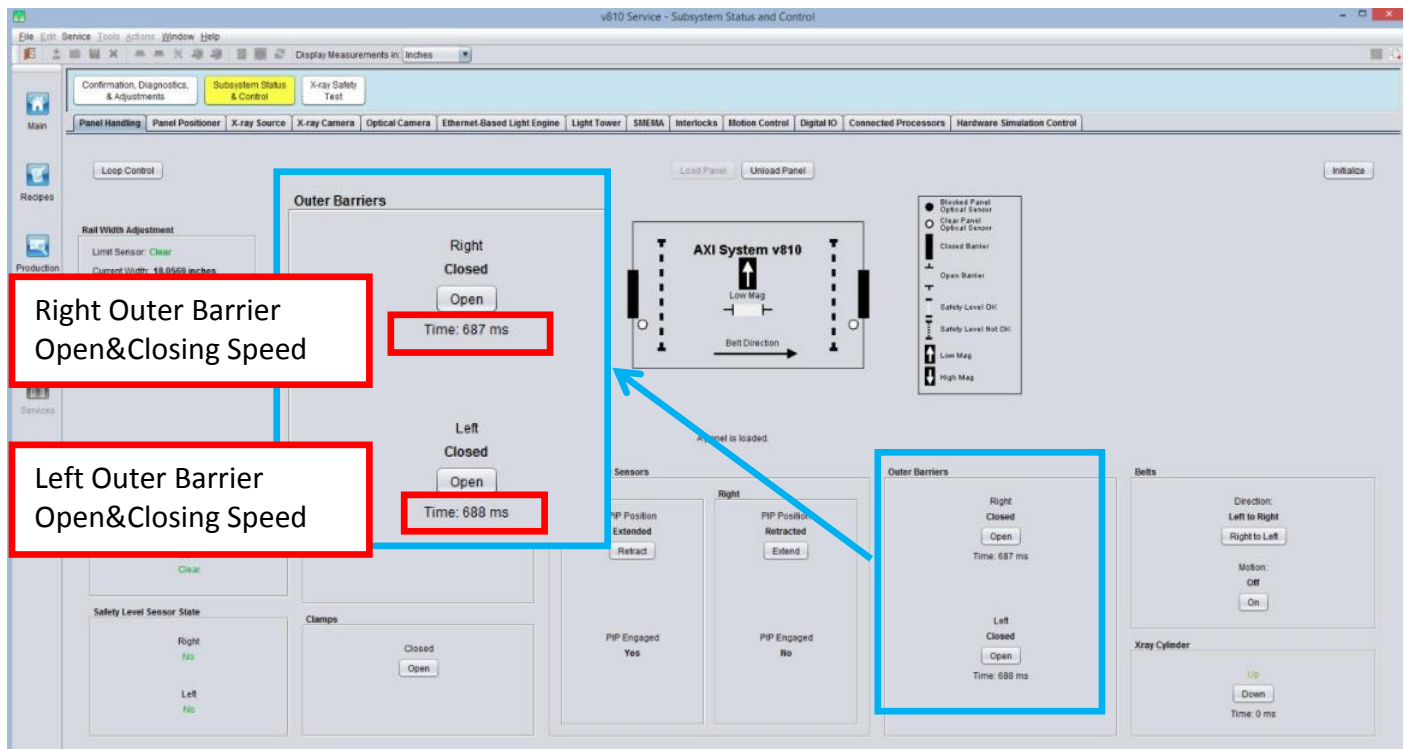

Figure 29
39. Open & Close particular Outer barrier .Record down Opening & Closing duration as below Figure 29.